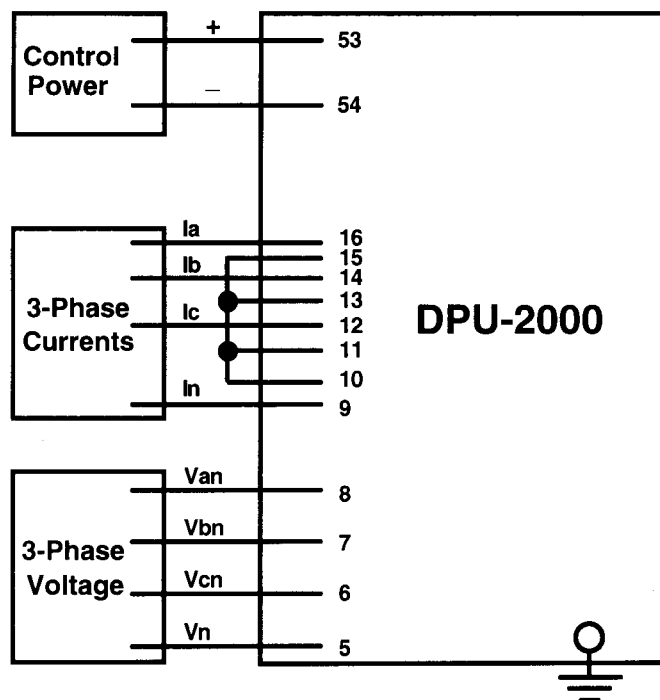

Figure 28. Metering Test
1. Apply 3-phase voltages and currents as shown in Figure 28. The values for these are: